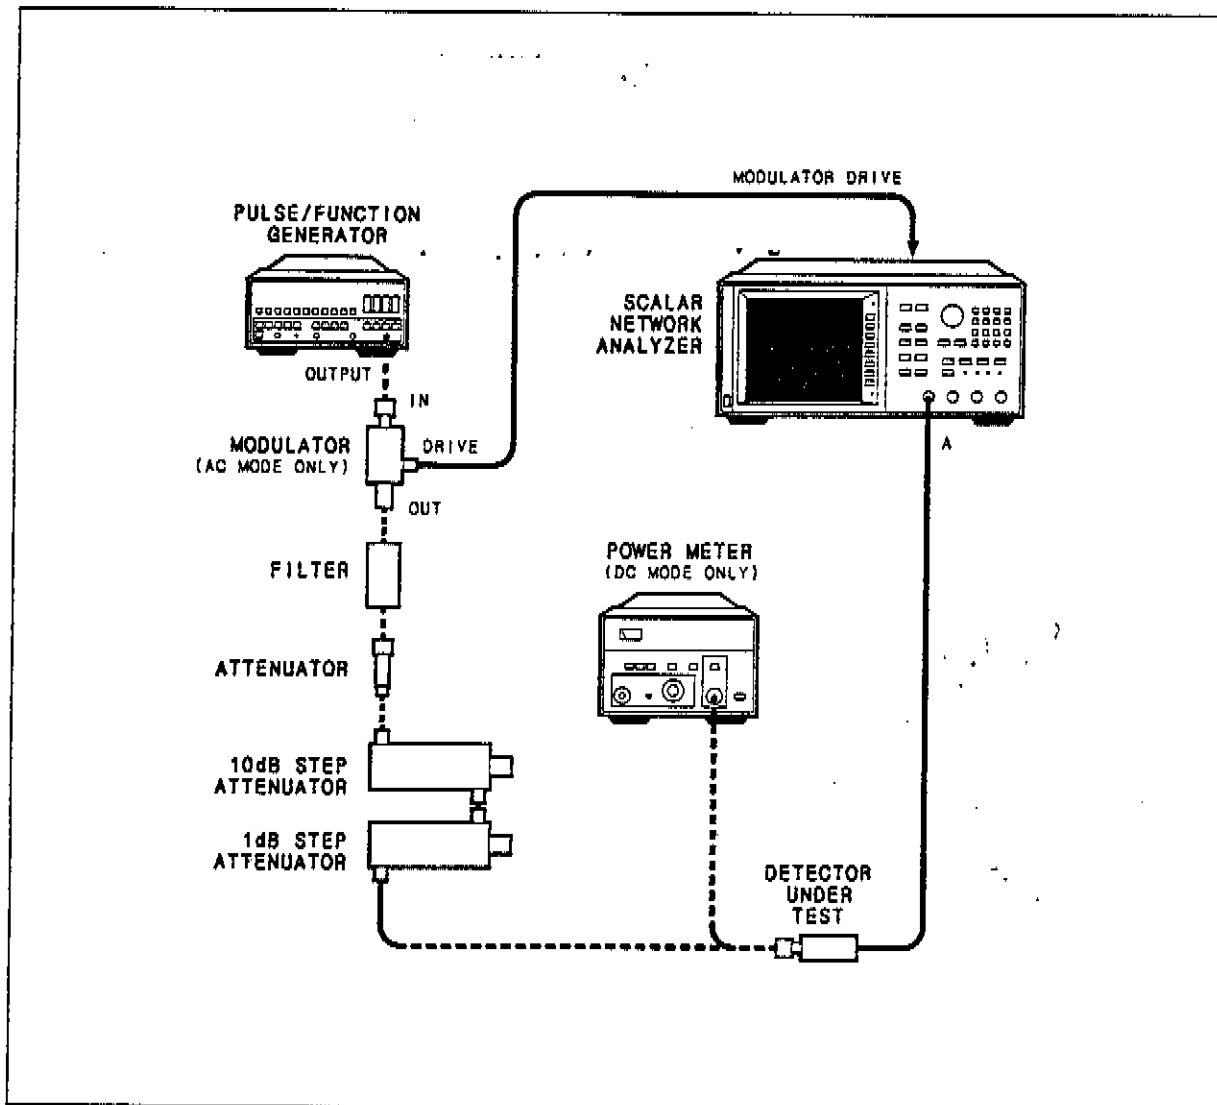

Figure 12. Power Accuracy Test Setup
1. Connect the equipment as shown in Figure 12. Do not connect detector to attenuator output. Do not use the modulator for this test (AC mode only). Turn all equipment on and allow 30 minutes warm-up time.
20. Connect equipment as shown in Figure 12. Connect the modulator's DRIVE INPUT to the HP 8757A's rear panel MODULATOR output. Connect the DUT to the attenuated output. Turn equipment on and allow 30 minutes for warm-up.